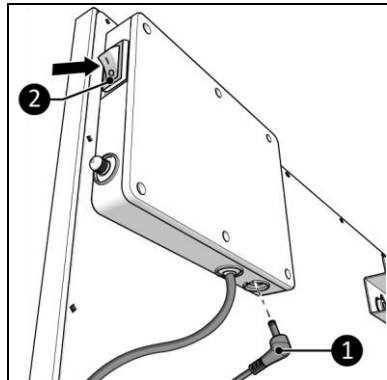

Figure 14
1. Make sure the ON/OFF switch is in the OFF position (Figure 14, pos. 2).
2. Connect the temperature sensor connector (Figure 14, pos. 1) to the sensor plug.